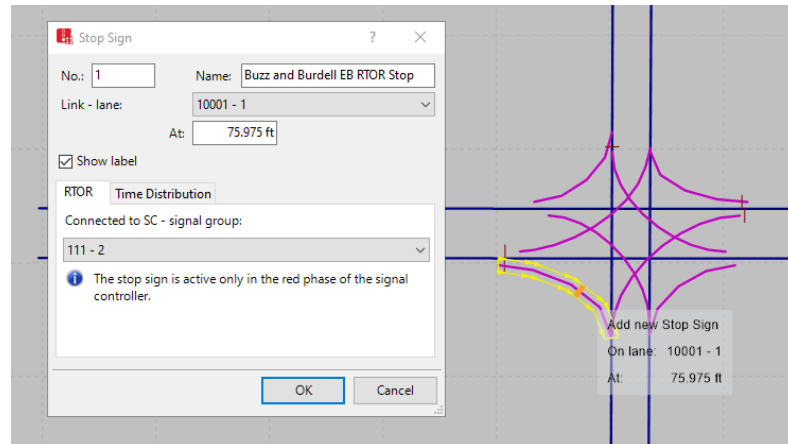

Figure 16: Stop Sign pop-up window
- step iii. Right-click at the location where the vehicles will stop to make the right-turn-on-red movement, and the *Stop Sign* pop-up window will appear (see Figure 16).